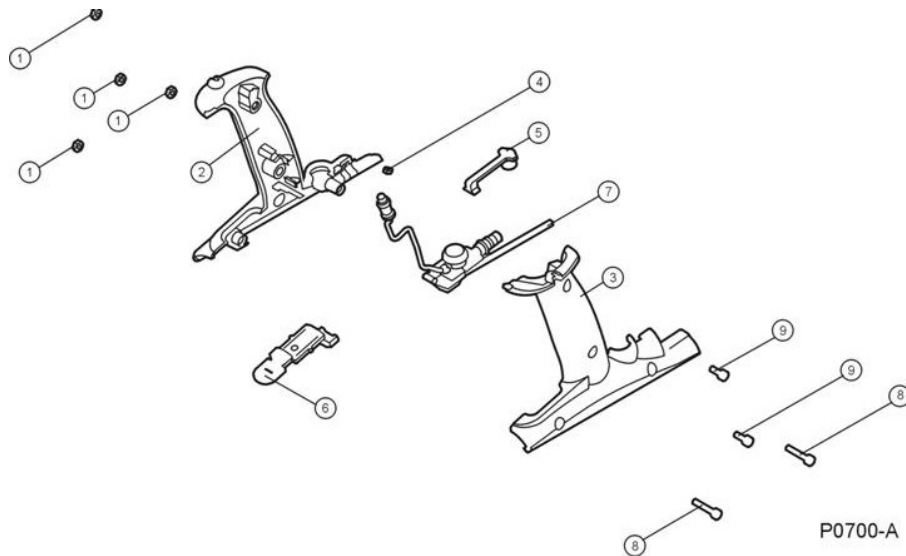

Figure 29: Connecting Speaker Pod to Wiring Loom
- By securing the wiring loom plug between thumb and forefinger, gently snap the speaker pod socket onto the plug and roll back the shroud onto the wiring loom socket. (Figure 29).